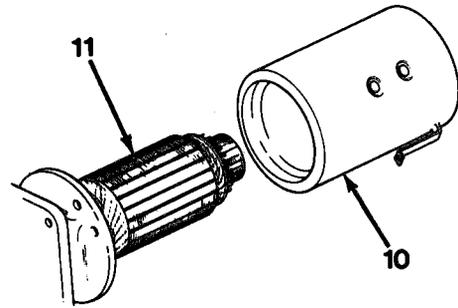

Figure 10-4
9. Install armature (11) into housing (10, Figure 10-4).